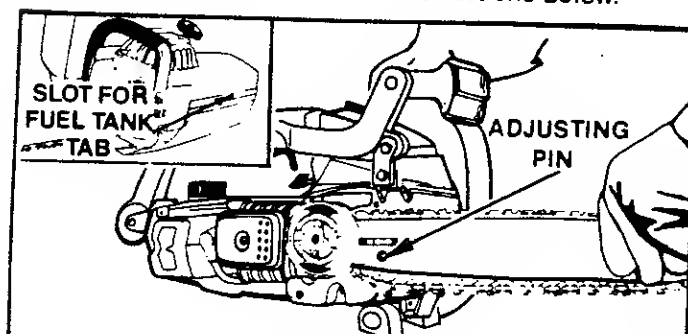

Figure 10
**CAUTION:** Make sure that the tab on the bottom of the fuel tank is aligned in the slot provided in the fan housing. Figure 10.